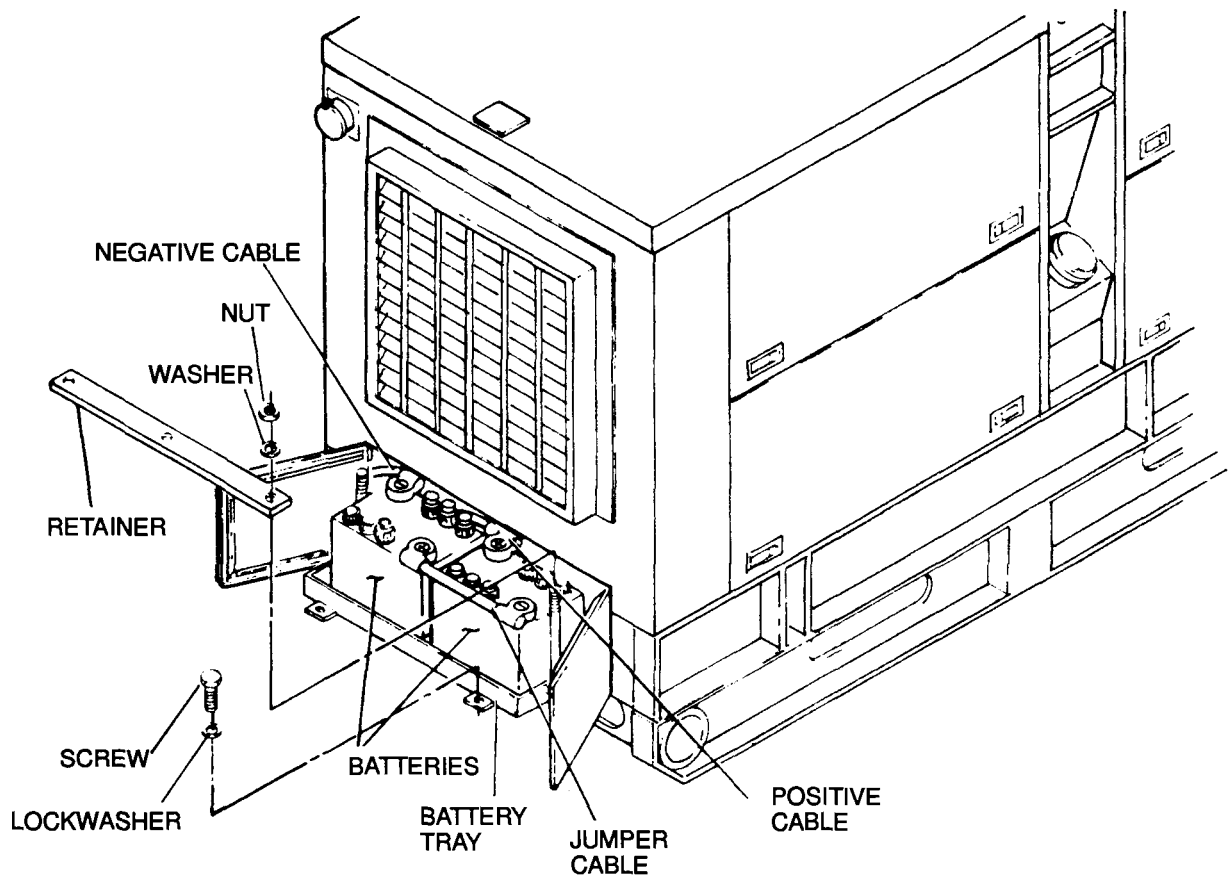

Figure 4-2. Battery Installation
- (2) install batteries and connect as shown in Figure 4-2.
(1) Removal.
- (a) Remove battery tray retaining screws and washers (Figure 4-2) and slide battery tray out from compartment.
(b) Remove nuts, washers, and retainer (Figure 4-2).